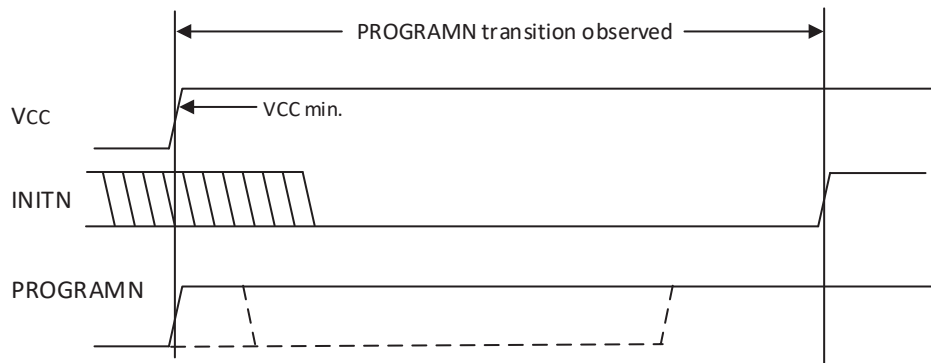

Figure 4.5. Period PROGRAMN is Always Observed
- PROGRAMN is active during power-up, even when it is reserved as a general purpose I/O. Do not allow any input signal attached to PROGRAMN to transition from high to low at a frequency greater than the VCC (min) to INITN rising edge time period. High to low PROGRAMN assertions more frequently prevent the Mach-NX device from configuring, causing the FPGA to remain in a continuous RESET condition. See Figure 4.5.